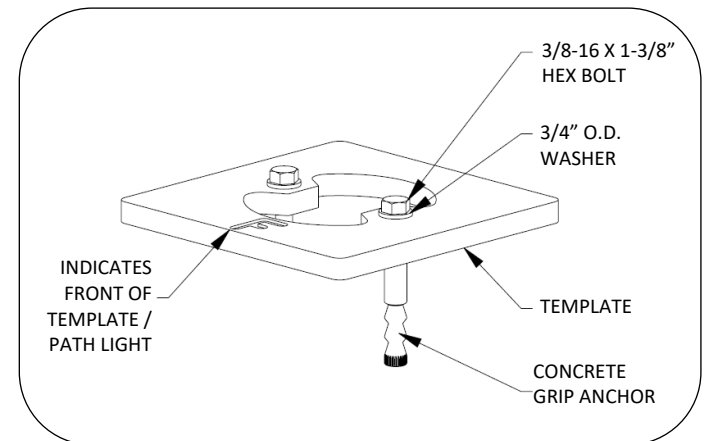

FIG. 3 – TEMPLATE ASSEMBLY WITH ANCHORS
5. Assemble anchor template, concrete grip anchors and hex head bolts as shown in Fig. 3. Test fit assembly into anchor holes, ensuring that tops of concrete grip anchors are flush or just below grade.